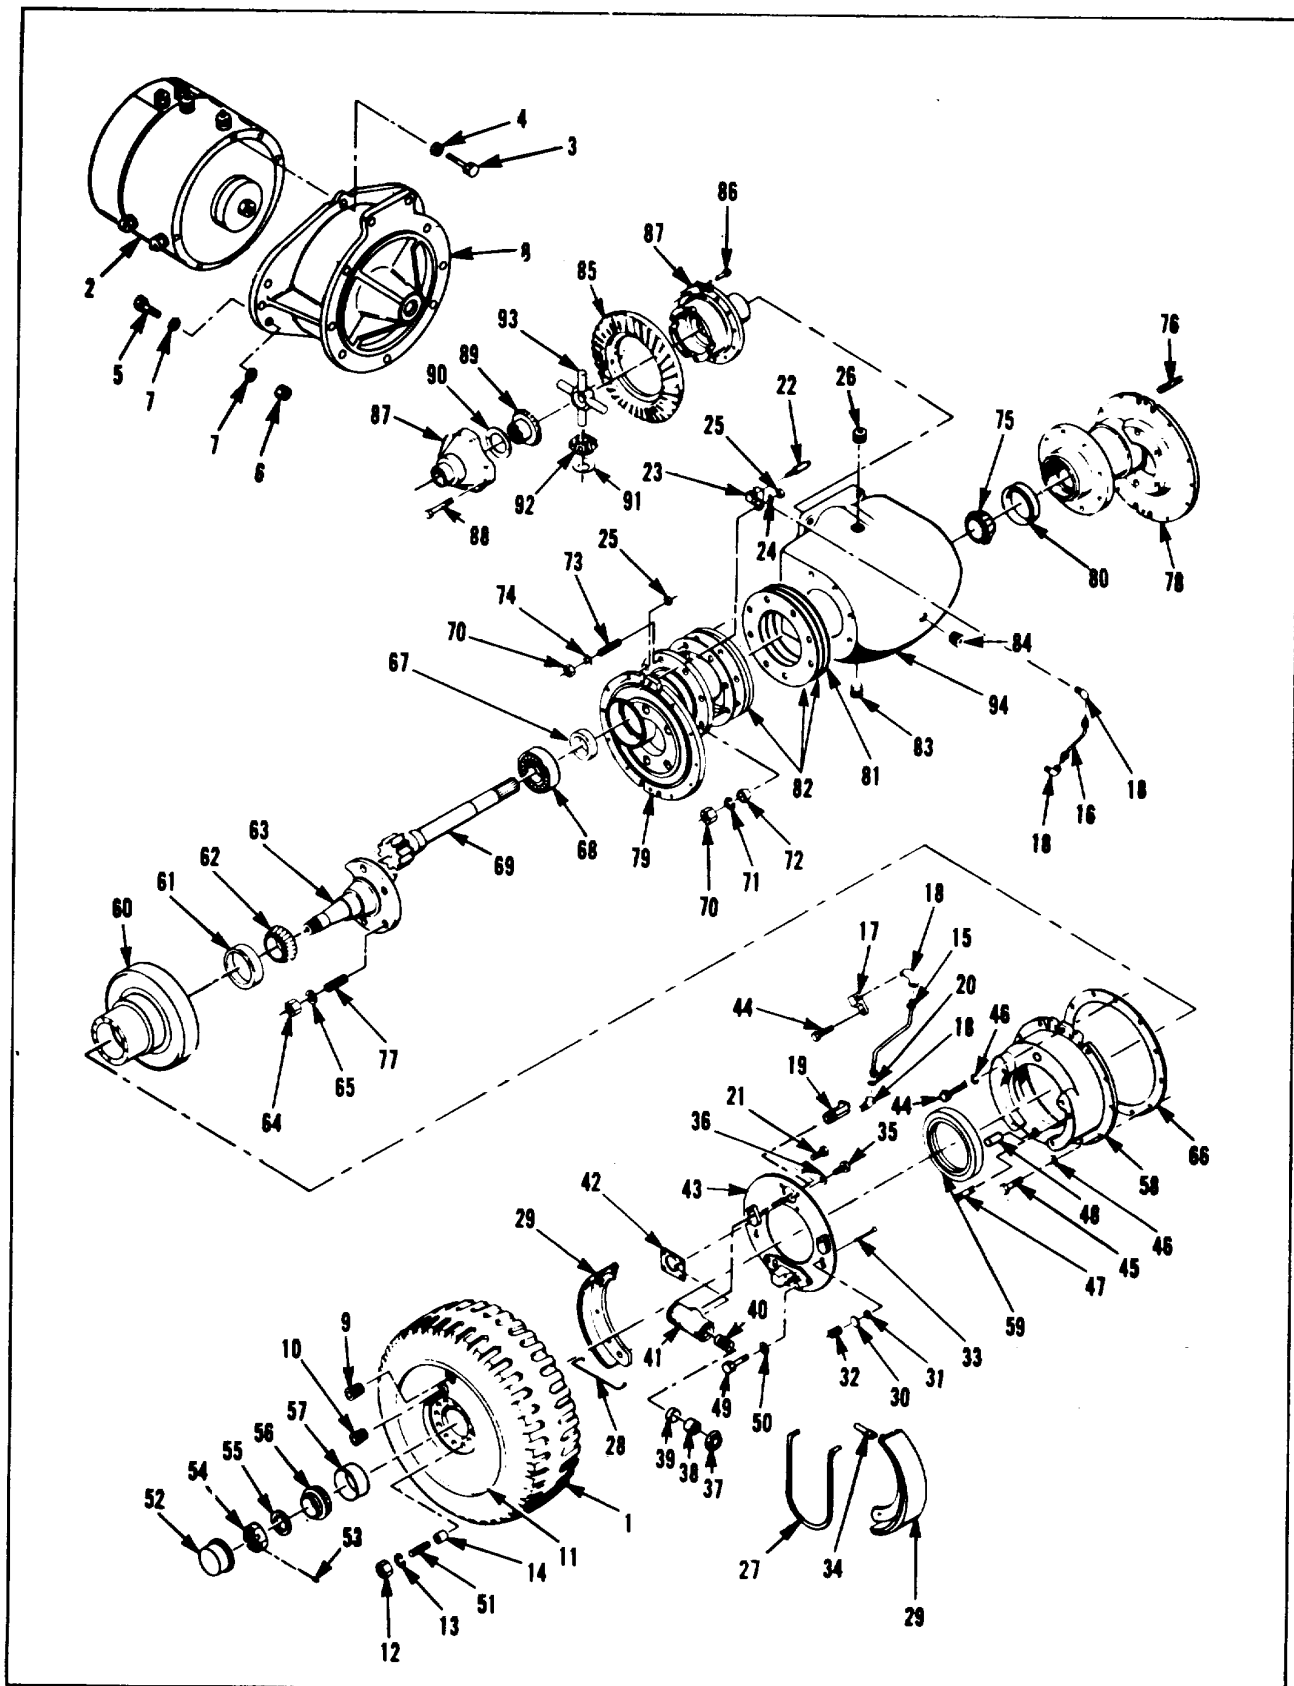

Figure 7-35. Drive Axle, Adapter, Drive Motor and Tire
**Key to figure 7-35**
**Key to figure 7-35 (cont)**